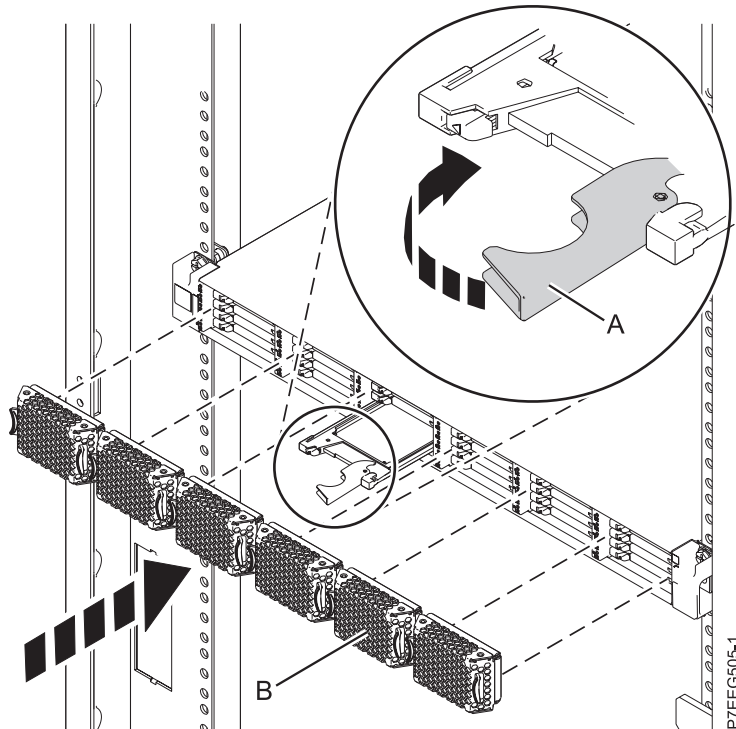

Figure 22. Replacing a solid-state drive in the 58/88 PCIe storage enclosure.
4. When the solid-state drive identify LED turns on solid, slide the solid-state drive all the way into the 58/88 PCIe storage enclosure until it is fully seated. Then rotate the handle (A) to the locked position. See Figure 22 on page 39.
6. Install the bezel (B).